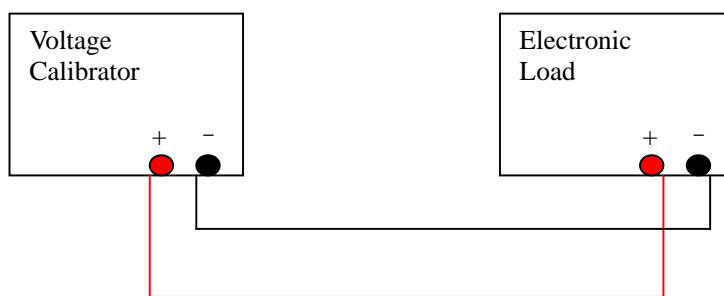

Figure 1.
① Open the upper cover of the Electronic Load, make sure all the instruments have been warmed up for at least 30 minutes. Set the e-load to OFF state. Connect the e-load to Voltage Calibrator as Figure 1.